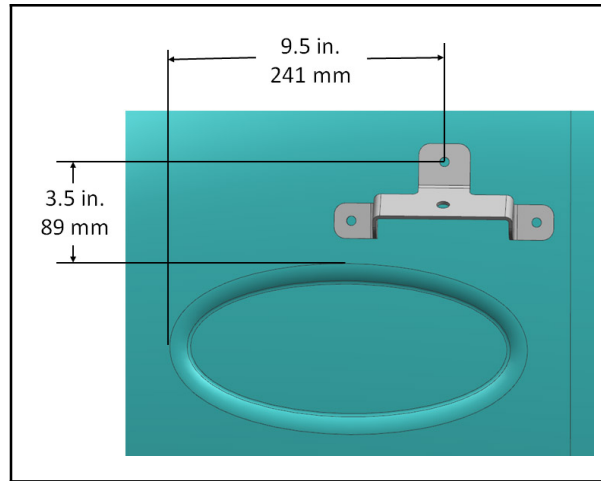

**FIG. 1**
5. **M20/M30 Only:** Remove the lower cover from the machine. Set the lower cover and hardware aside. (Fig. 1)